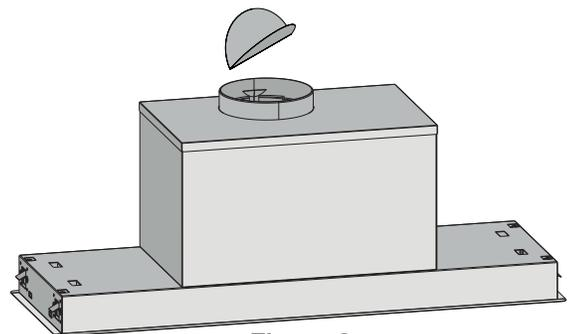

Figure 3
- Fix the damper flap into the damper hole on top of the range hood motor box (see Figure 3).